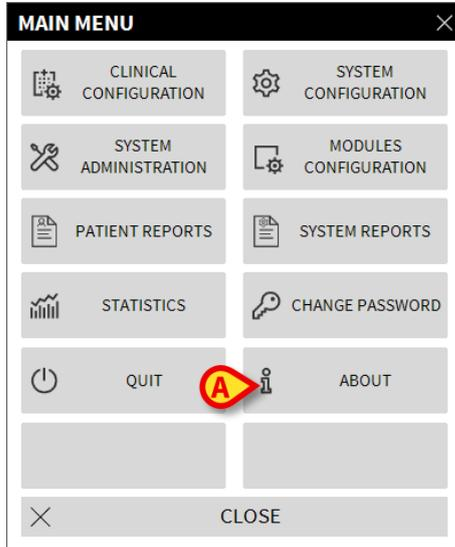
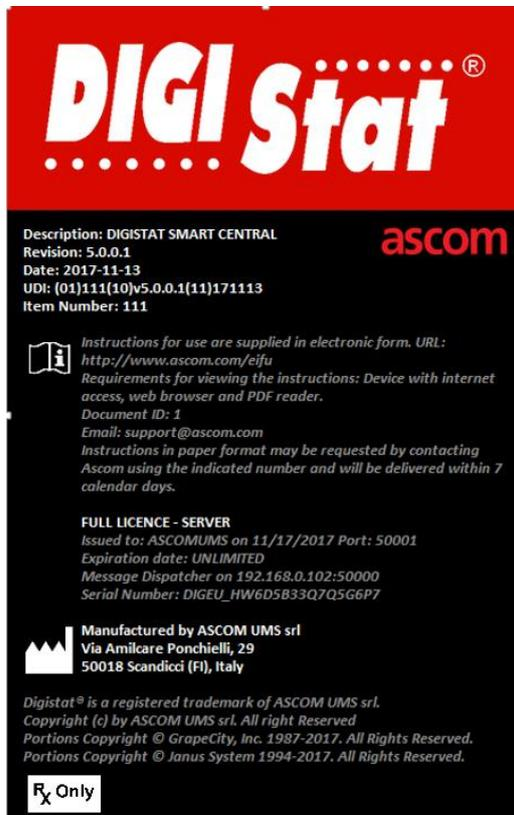

Fig 2
Fig 3
Product data can be found in the product labeling (the “About box” displayed within the product - Fig 3).
The following menu is displayed (Fig 2).
- Click the **About** button (Fig 2 **A**). The Digistat Smart Central “About Box” is displayed (an example in Fig 3)